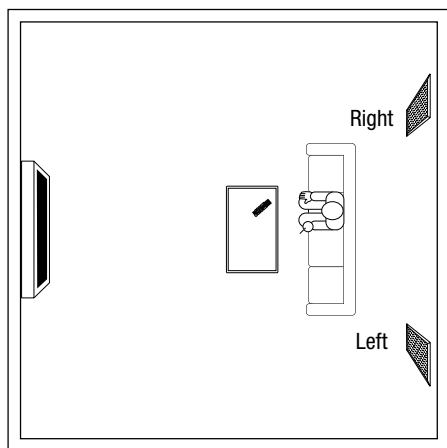

Figure 2. Loudspeakers are placed near back corner walls of a home theater room.
- Place the surround loudspeakers on a rear wall directly behind the listening position. If possible, try placing the loudspeakers nearer to the corners, as shown in **Figure 2** and **3**. Set each BIPOLE/DIPOLE switch to DIPOLE for reflected sound. Moreover, the adjoining walls will act as powerful reflectors to create even more reflections.